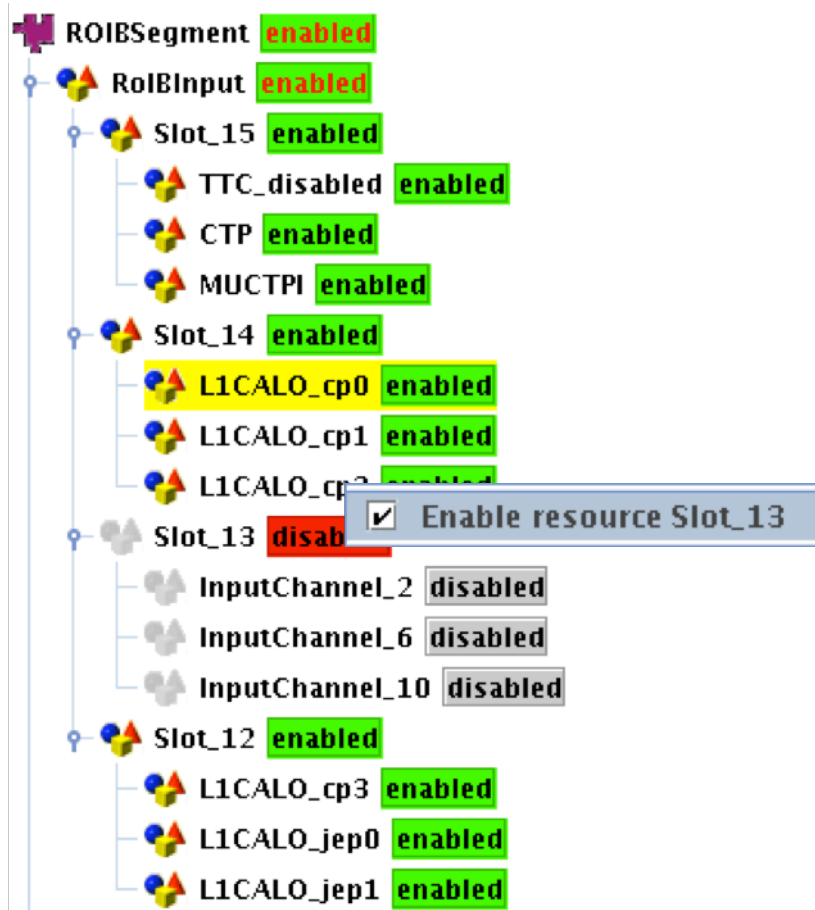

Figure 15: enable RoIB segment with IGUI
4) Input channel 10 belongs to VME slot 13. Verify if it is enabled in the RoIB input tree in the IGUI (Figure 15)